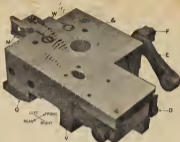

FIGURE 3.
19. Before taking off any part back off CLAMP SCREW (F) two or three turns, using LEVER (E) to turn it.
20. Remove, in the order here given, SHIELD (G), MATRIX-CLAMP SCREW (S); MATRIX CLAMP (T); MATRIX (U); upper MOLD-BLADE SHOE (N); MOLD-BLADE STOP (L); MOLD BLADE (M) (CAUTION: Do not drop VENT PUSHER); and two TIE BARS (Q and V).
21. Take out one SCREW (X, Fig. 3) and its WASHER from the bottom of the MOLD. Then from the front remove five SCREWS (I) that hold the front TYPE BLOCKS